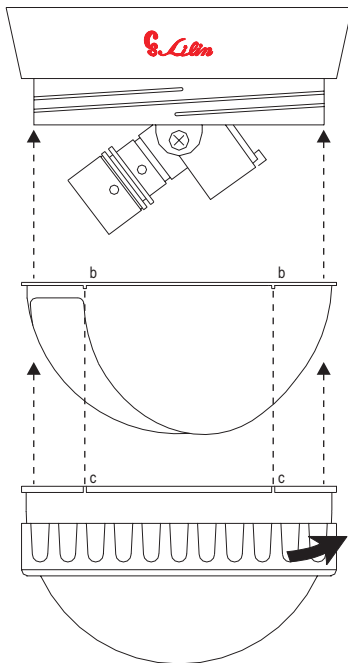

FIG. 3
4. Put on the inside cover first, and followed by put on the dome cover. Then tighten the fix ring(FIG.3).